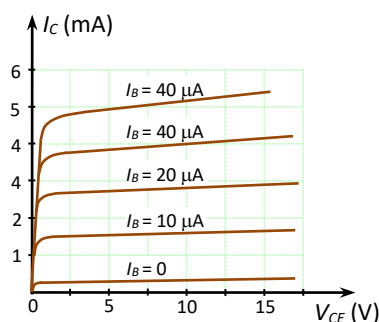

Fig. 4.49: Graph for exercise number 4
3. From the output characteristic curves given in Fig.4-49 for a CE configuration transistor calculate the value of β_{DC} for $V_{CB} = 5 \text{ V}$ and $V_{CB} = 15 \text{ V}$ and $I_B = 40 \mu\text{A}$. Also calculate their corresponding α_{DC} values. [Answer: $\beta_{dc} \approx 128$; $\beta_{DC} \approx 149$ and $\alpha_{dc} \approx 0.9924$; $\alpha_{dc} \approx 0.9929$.]